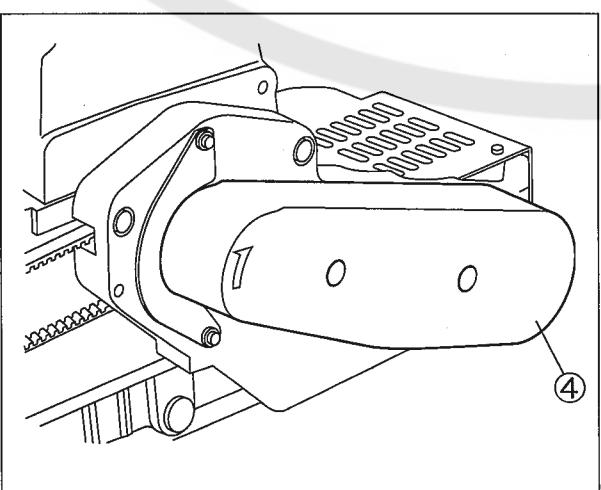

Fig. 16
- (3) Reset the belt cover④. (Fig. 16)